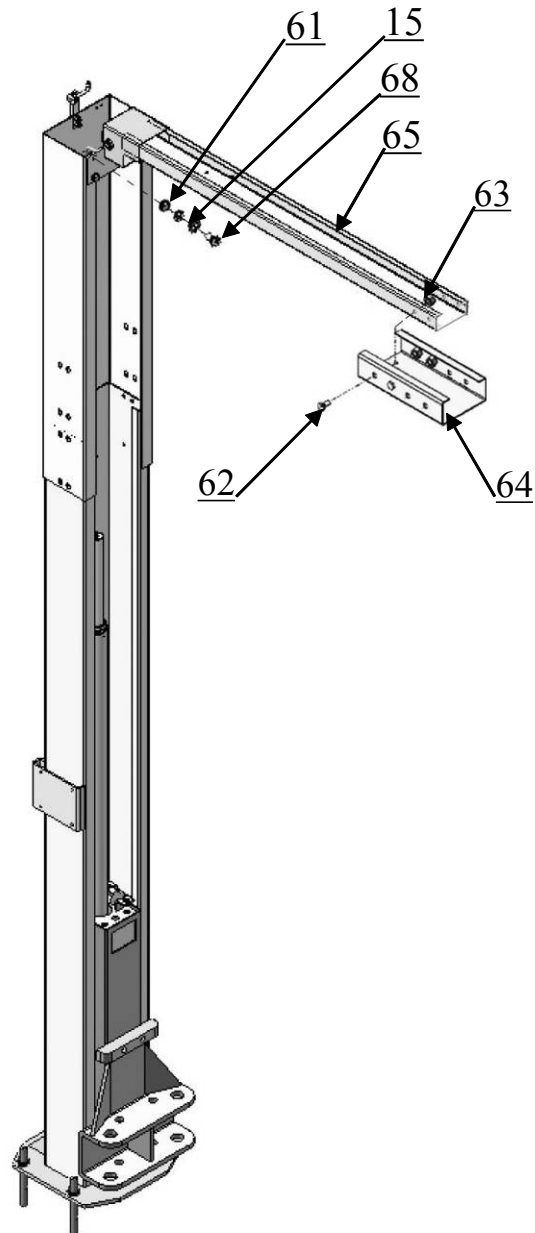

Fig. 17
1. With help of the hook of top beam, put one side of top beam on top of the extension column and connecting the top beam to extension column by bolts, tighten the bolts. Then assemble the connecting bracket (**See Fig. 17**).